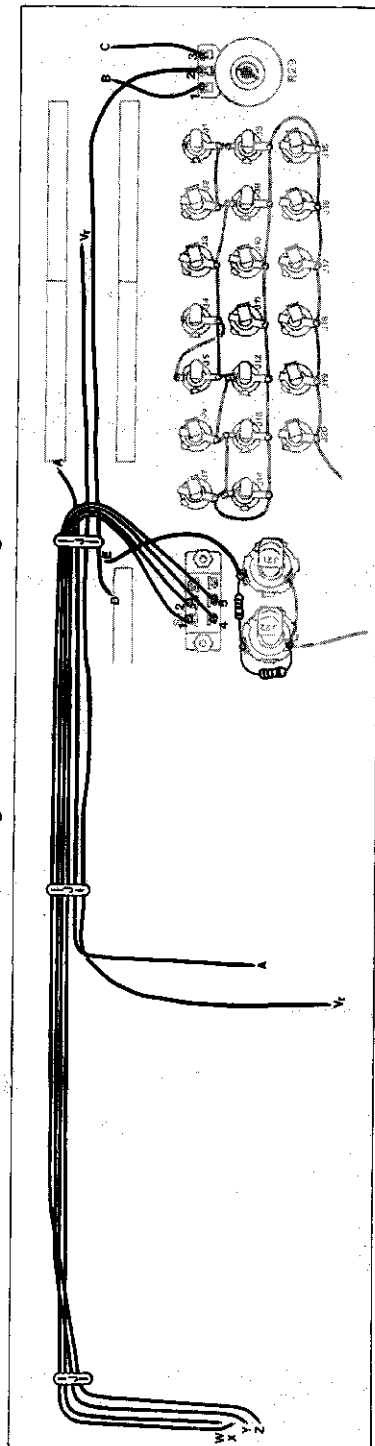

Figure 11: Wire Routing
- () You may now group the insulated wires together and route along the circuit board as shown in figure 11. After routing, the three sleeved solid wire hold downs illustrated may be installed, soldered and clipped flush with the board.